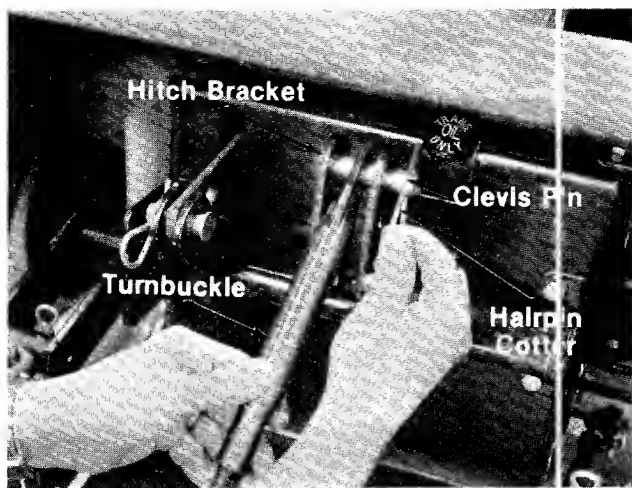

FIGURE 7.
7. Screw the two halves of the center turnbuckle together. Attach either end to any hole in the hitch bracket mounted in the center of the rear frame of the tractor with a clevis pin and hairpin cotter. See figure 7.